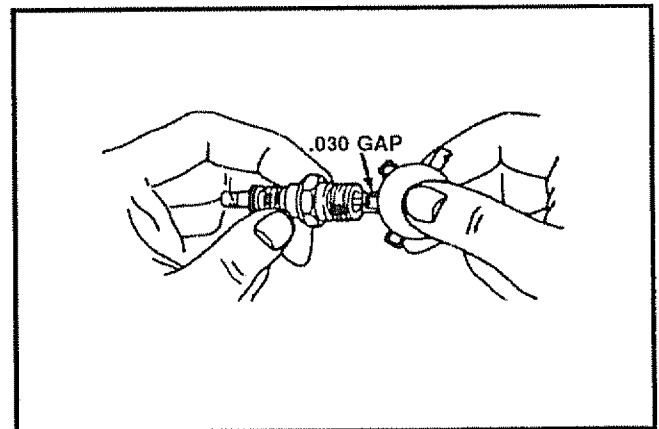

FIG. 38
- Be sure the spark plug is clean and free of foreign material. Check electrodes gap (See Fig. 38) with a wire feeler gauge and reset the gap to .030 inch if necessary.
- Set the gap to .030 (See Fig. 38).